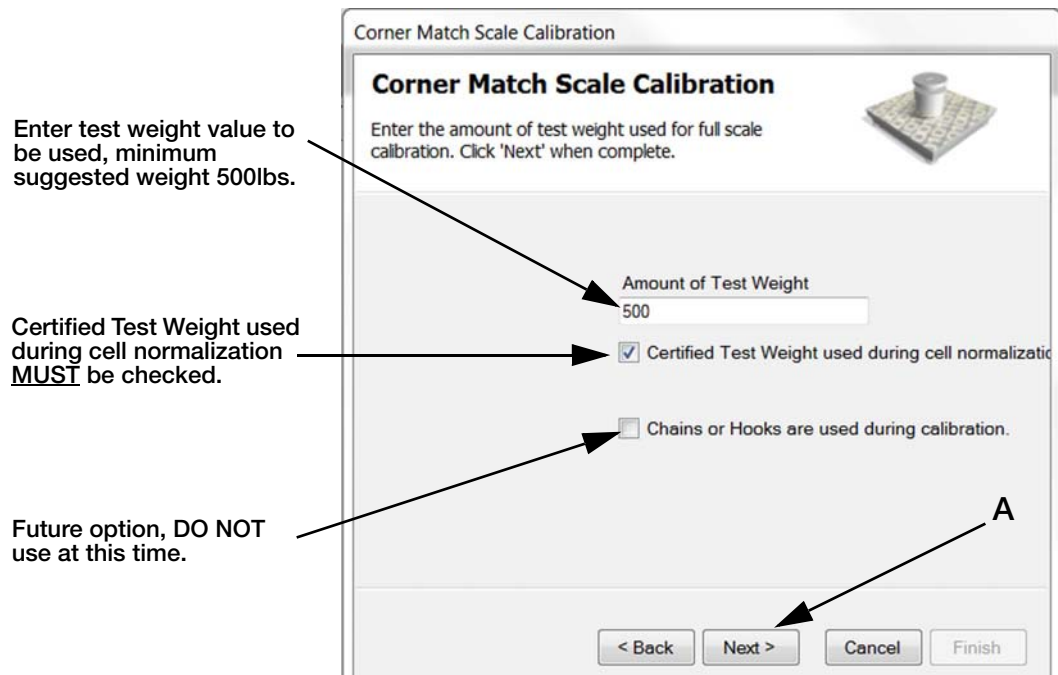

Figure 4-10. Enter Test Weight Value
3. Enter test weight value to be used and press *Next* (Figure 4-10 A).